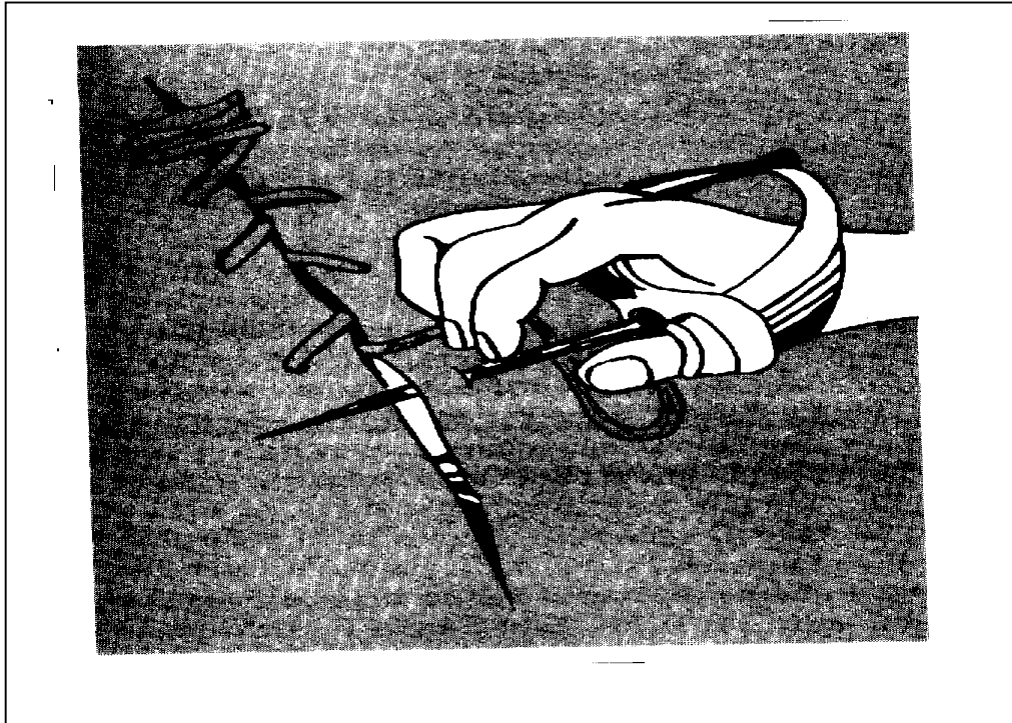

Figure 7-11. Fishbone stitch
e. Fishbone Stitch. The fishbone stitch (Figure 7-11) is also called the baseball stitch. It is used to join the edges of a tear until the area can be patched. To make a row of fishbone stitches--
(1) Push the needle up through the canvas. Anchor the knot by taking two stitches, one on top of the other as shown.
(2) After taking the second stitch, bring the needle and thread up through the opening diagonally.
(3) Stick the needle down into the canvas on the opposite side of the opening.
(4) Continue to make diagonal stitches, coming up through the opening and alternating from one side to the other with the stitches.
(5) End the row by taking two stitches, one on top of the other.
- (6) Make a knot in the thread close to the canvas, and cut off the remaining thread.